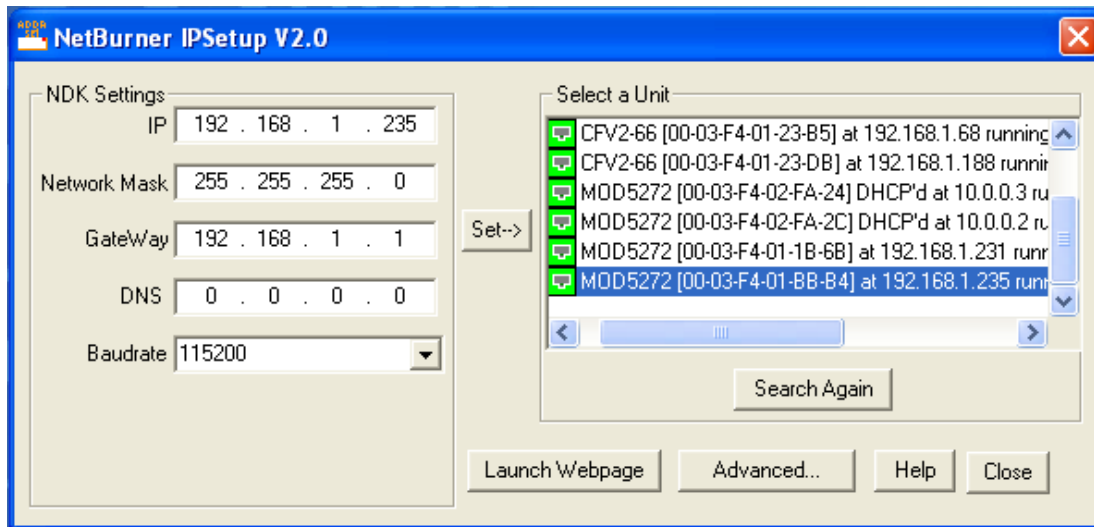

Figure 2 NetBurner IPSetup Screen
2. Double click on the IPSetup.exe icon and Figure 2 will be displayed.